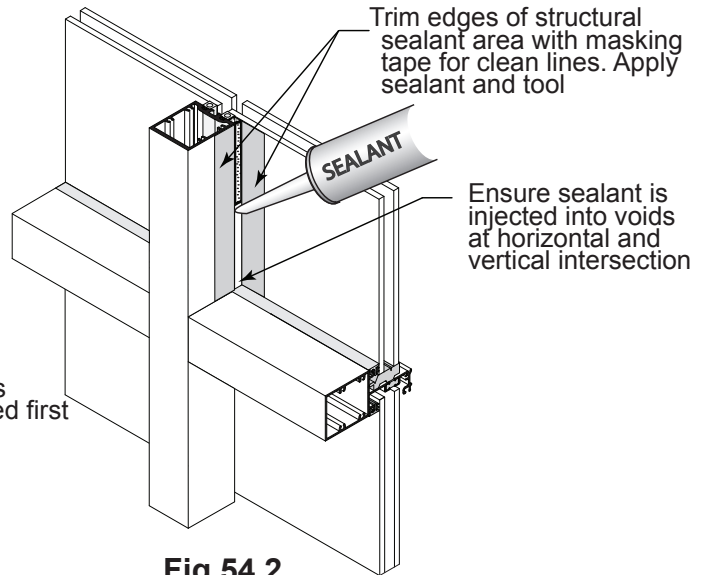

Fig.54.2
- A. Set glass onto (2) setting blocks located at quarter points or per approved shop drawings.
- B. Tape off side of SSG vertical and glass prior to applying structural sealant. Apply structural sealant as shown on interior. See **Fig 54.2**. Use P1108 temporary glazing clip to secure glass as interior seal cures.